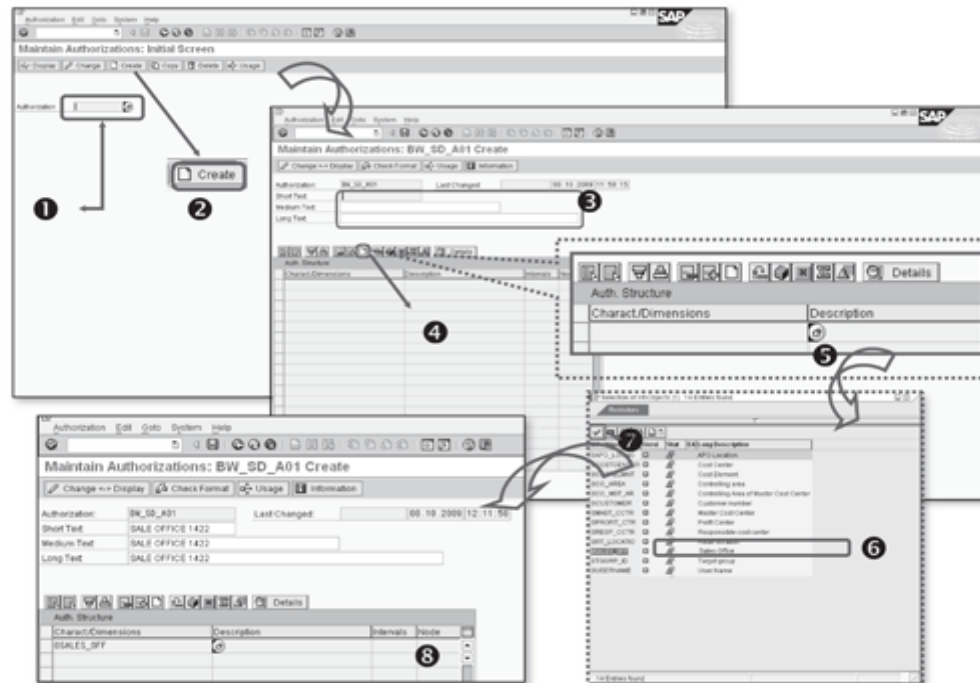

Figure 14.43 Create Analysis Authorization Object
The Authorization tab has three buttons for carrying out authorization-related tasks: Maintenance (❹), Generation (❺), and Transport (❻). The Maintenance button is the one relevant for our discussion; click it and the Maintain Authorizations: Initial screen appears (Figure 14.43).
In the Authorization field, enter "BW_SD_A01" (❶ of Figure 14.43), and click the Create button (❷). The next screen is Maintain Authorization: BW_SD_A01 Create. The screen has three fields for the authorization object's short, medium, and long descriptions (❸). Enter the following: